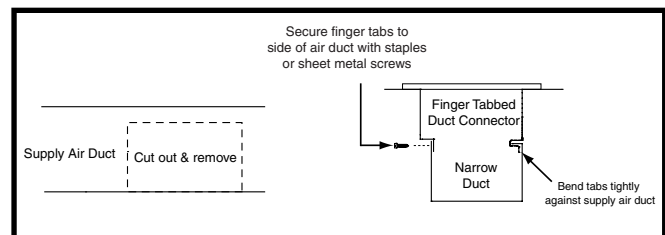

Figure 12. Narrow Ducts - Option 2
- Cut and remove the top of the supply air duct as shown in Figure 12.
- Bend the tabs on the bottom of the duct connector upwards and as tight as possible against the supply air duct (Figure 12).